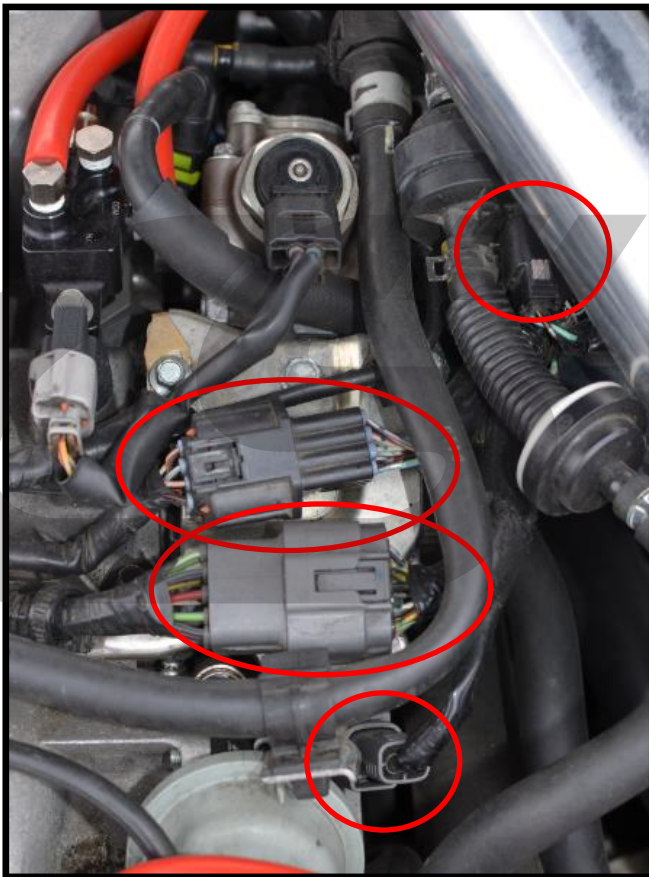

Figure 8c
- d) Disconnect the four electrical connectors circled in red in **Figure 8c**.